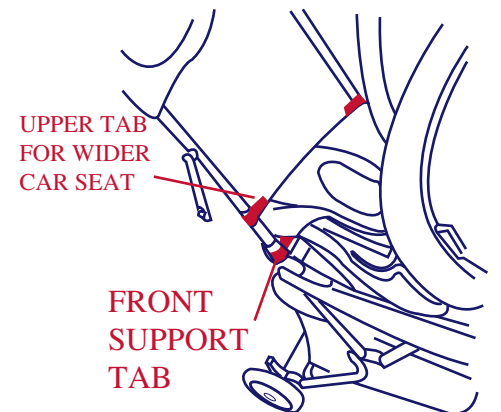

Figure 11.
- Make sure the front of the car seat rests on the red support tabs located on the frame. See figure 11. **NOTE: For wider car seats there is a higher support tab located above the main red support tabs. See Figure 11.**